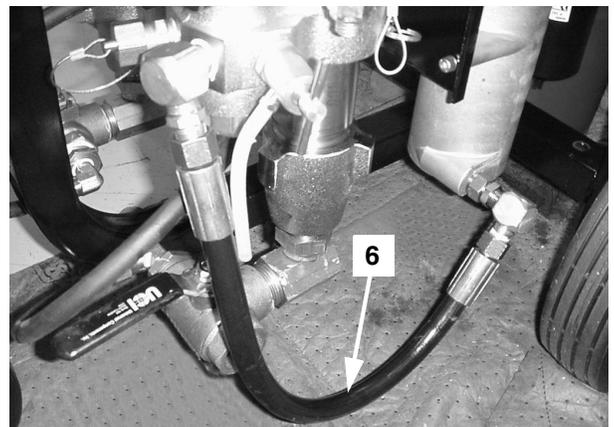

FIG. 10
10. Connect hose (6) between heater inlet and pump outlet. FIG. 10,